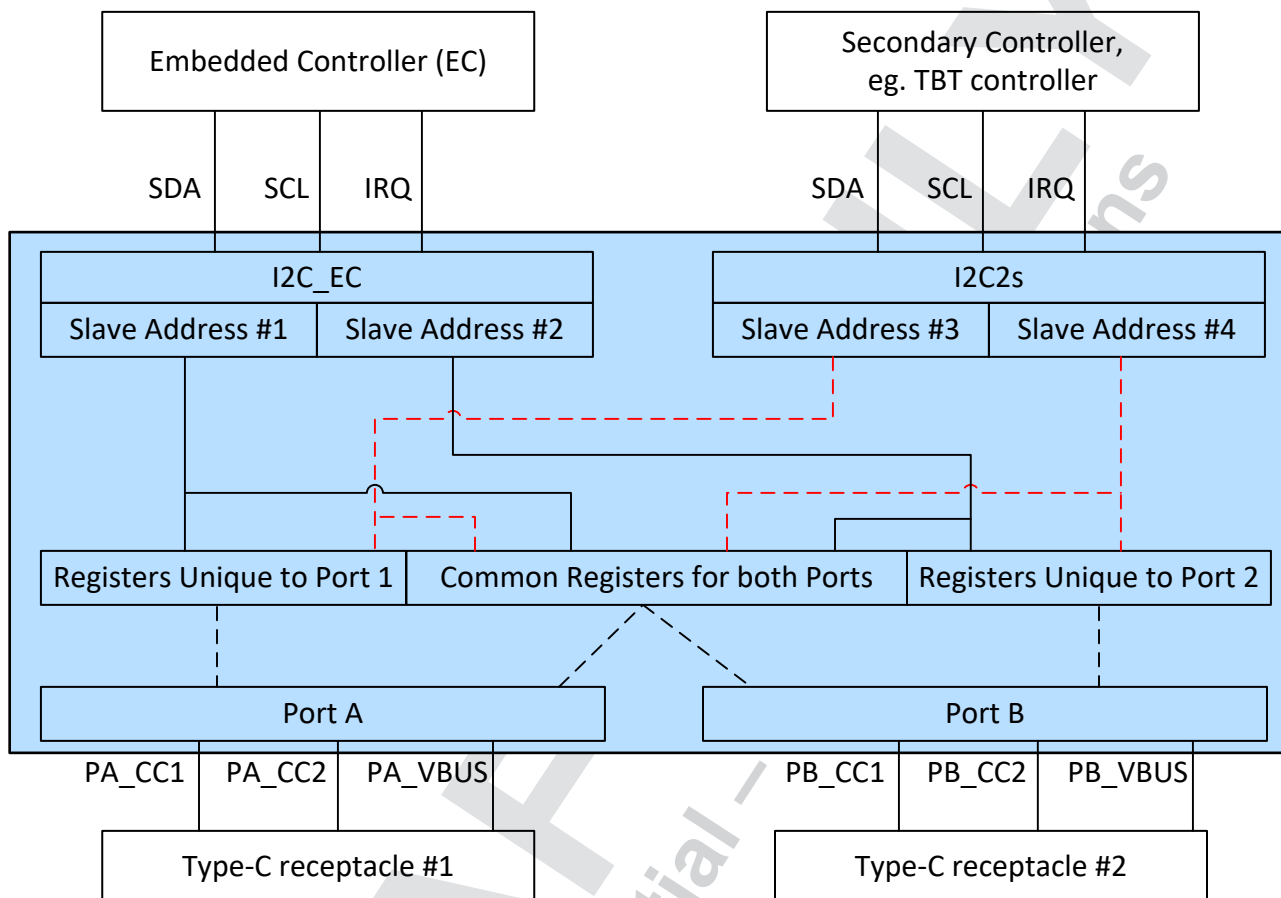

Figure 1-1. Logical connections to registers and Type-C ports in a dual-port PD controller.
The PD Controller provides two physical I2C slaves. The I2C_EC slave is meant to be connected to an Embedded Controller (EC). The I2C2s slave is meant to be connected to a secondary controller such as a Thunderbolt controller. For dual-port PD controllers, both of the I2C slaves respond to two slave addresses; one for each Type-C port. Figure 1-1 shows the logical connections for the system for a dual-port PD controller.